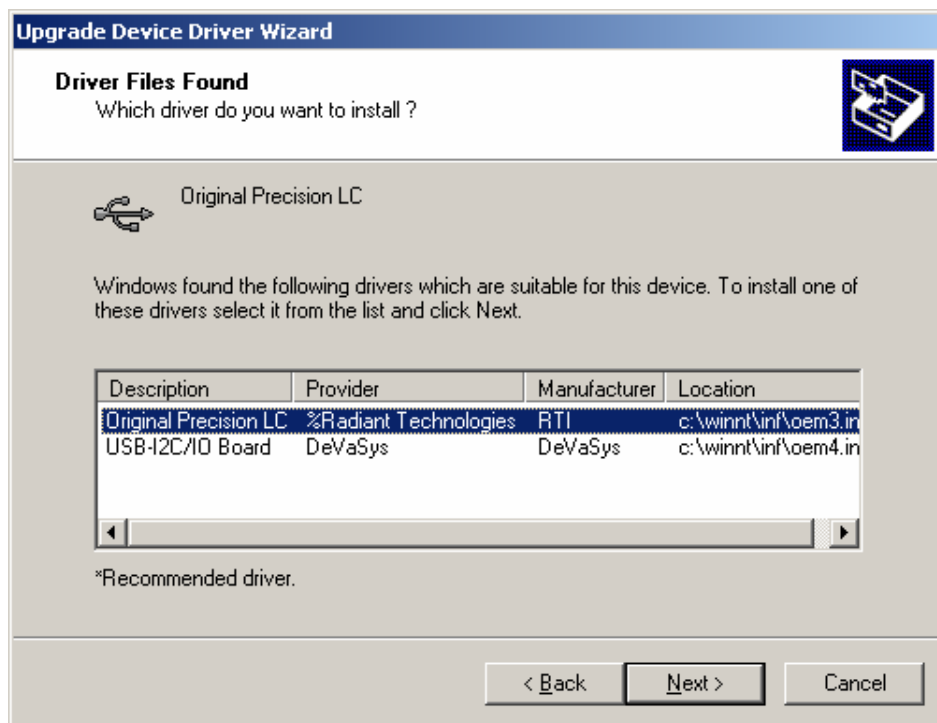

Figure 10 – Driver Override Wizard Page.
9. The browse dialog will close. The next wizard page will indicate that an existing driver has been found (“c:\winnt\inf\oem3.inf” in **Figure 10**). Ensure that *Install one of the other drivers* is checked, then click Next>.